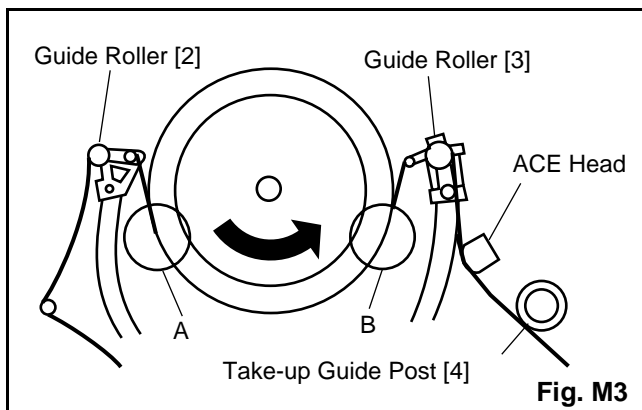

Fig. M3
1. Playback a blank cassette tape and check to see that the tape runs without creasing at Guide Rollers [2] and [3], and at points A and B on the lead surface. (Refer to Fig. M3 and M4.)
2. If creasing is apparent, align the height of the guide rollers by turning the top of Guide Rollers [2] and [3] with a Guide Roller Adj. Screwdriver. (Refer to Fig. M3 and M5.)
3. Check to see that the tape runs without creasing at Take-up Guide Post [4] or without snaking between Guide Roller [3] and AC Head. (Fig. M3 and M5)
2. Playback the Gray Scale on the Alignment Tape (FL6NS8). Set the Tracking Control Circuit to the center position by pressing "VCR" button and "▲CH" button on the remote control unit then pressing "PLAY" button on the unit. Adjust the height of Guide Rollers [2] and [3] (Fig. M3, Page 2-3-3) watching the oscilloscope display so that the envelope becomes as flat as possible. To do this adjustment, turn the top of the Guide Roller with the Guide Roller Adj. Screwdriver.
3. If the envelope is as shown in Fig. M7, adjust the height of Guide Roller [2] (Refer to Fig. M3) so that the waveform looks like the one shown in Fig. M9.
4. If the envelope is as shown in Fig. M8, adjust the height of Guide Roller [3] (Refer to Fig. M3) so that the waveform looks like the one shown in Fig. M9.
5. When Guide Rollers [2] and [3] (Refer to Fig.M3) are aligned properly, there is no envelope drop either at the beginning or end of track as shown in Fig. M9.
Note: Upon completion of the adjustment of Guide Rollers [2] and [3] (Refer to Fig. M3), check the X Value by pushing the "▲CH" or "▼CH" buttons alternately, to check the symmetry of the envelope. Check the number of pushes to ensure center position. The number of pushes "▲CH" button to achieve 1/2 level of envelope should match the number of pushes "▼CH" button from center. If required, redo the "X Value Alignment."